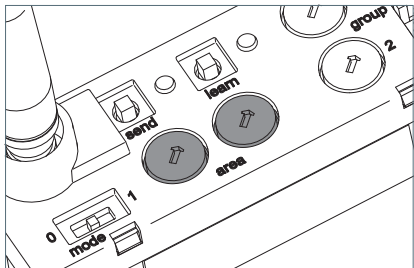

Fig. 15: "area" rotary coding switch
- Set both "area" rotary coding switches to the desired area address, see Fig. 15.